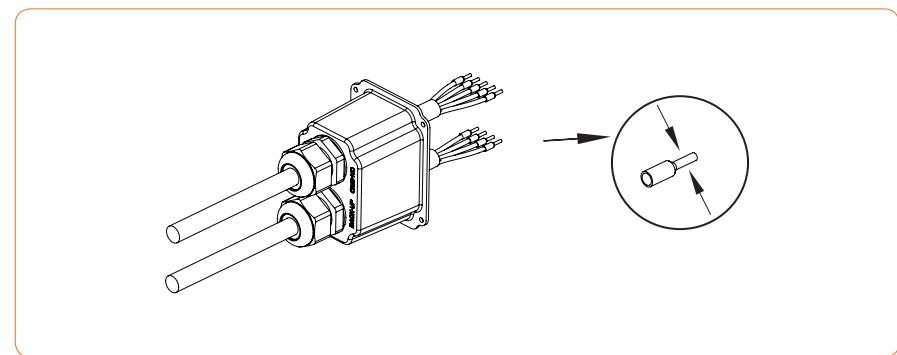

Figure 4-29
- ③ Put the cord end terminals on the stripped conductors one by one and press with some pressure to make it tightly locked with the conductors, as shown in Figure 4-29: